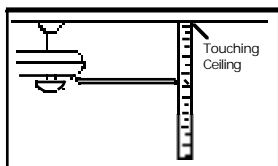
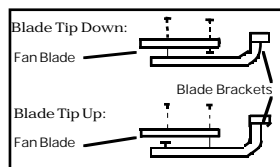

Figure 1
Figure 2
5. Most fan wobble problems are caused when blade levels are unequal. Check this level by selecting a point on the ceiling above the tip of one of the blades. Measure this distance from blade tip to ceiling. (Figure 1) Keeping measure within 1/8", rotate the fan until the next blade is positioned for measurement. Repeat for each blade. If all blade levels are not equal, you can adjust blade levels by the following procedure. To adjust a blade tip down, insert a washer (not supplied) between the blade and blade holder at the screw closest to the motor. (Figure 2) To adjust a blade tip up, insert washer (not supplied) between the blade and blade holder at the two screws farthest from the motor. (Figure 2) Reverse the position of the washer if blades mount from top of blade.